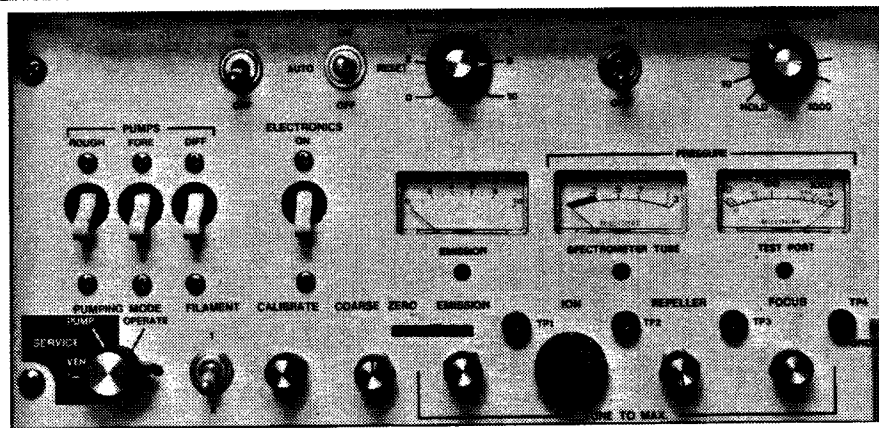

Figure 5-4. Tuning Controls
3. Turn off the calibrated leak. Refer to Figure 5-4 for steps below.